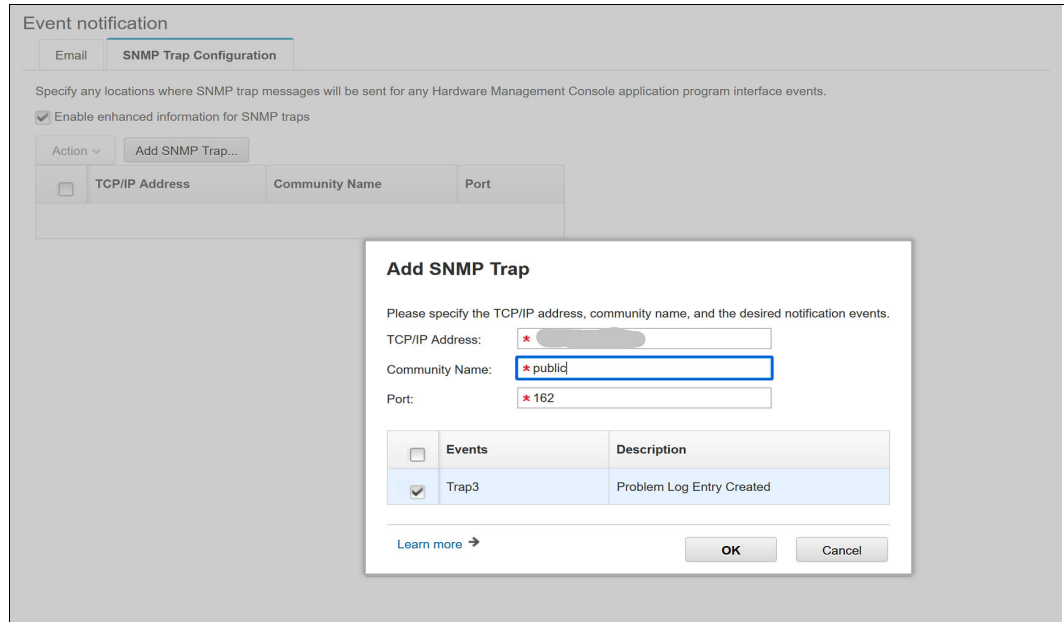

Figure 12-3 MC Manage Serviceable Event Notification
3. A new window opens. Enter the TCP/IP information of the SNMP server in the SNMP Trap Configuration dialog. Select Trap 3, as shown in Figure 12-3.